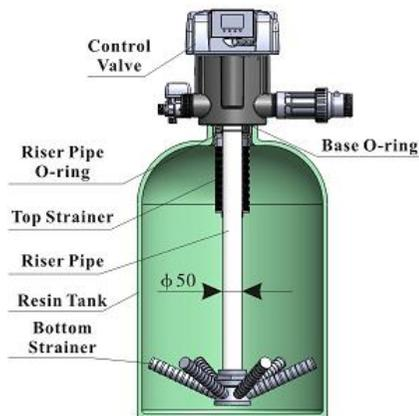

Figure 1-1
- ①The filter or softener should be located close to drain.
- ②Ensure the unit is installed in enough space for operating and maintenance.
- ③Brine tank needs to be close to softener.
- ④The unit should be kept away from the heater and not be exposed to outdoor. Sunshine or rain will cause the system damage.
- ⑤Please avoid installing the system in circumstance of acid/alkaline, magnetic or strong vibration circumstance, because above factors will cause the system disorder.
- ⑥Do not install the filter or softener, drain pipeline or overflow pipe in circumstance which temperature may drop below 5℃, or above 45℃.
⑦ Install the system in the place where with the minimum loss in case of water leakage.
① Install control valve
a. As the Figure 1-1 shows, select the riser pipe with 50mm OD, glue the riser pipe to the bottom strainer and put it into the mineral tank, cut off the exceeding pipe out of tank top opening and make external rounding.